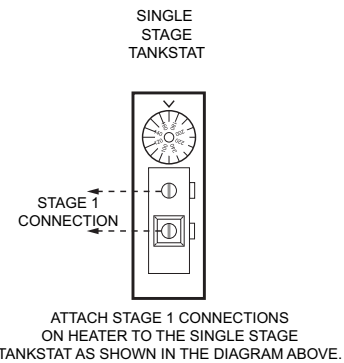

Fig. 26: Single-Stage Tankstat
- For single-stage controller connections, attach the stage 1 connections on heater 1 to the tankstat per Fig. 26.